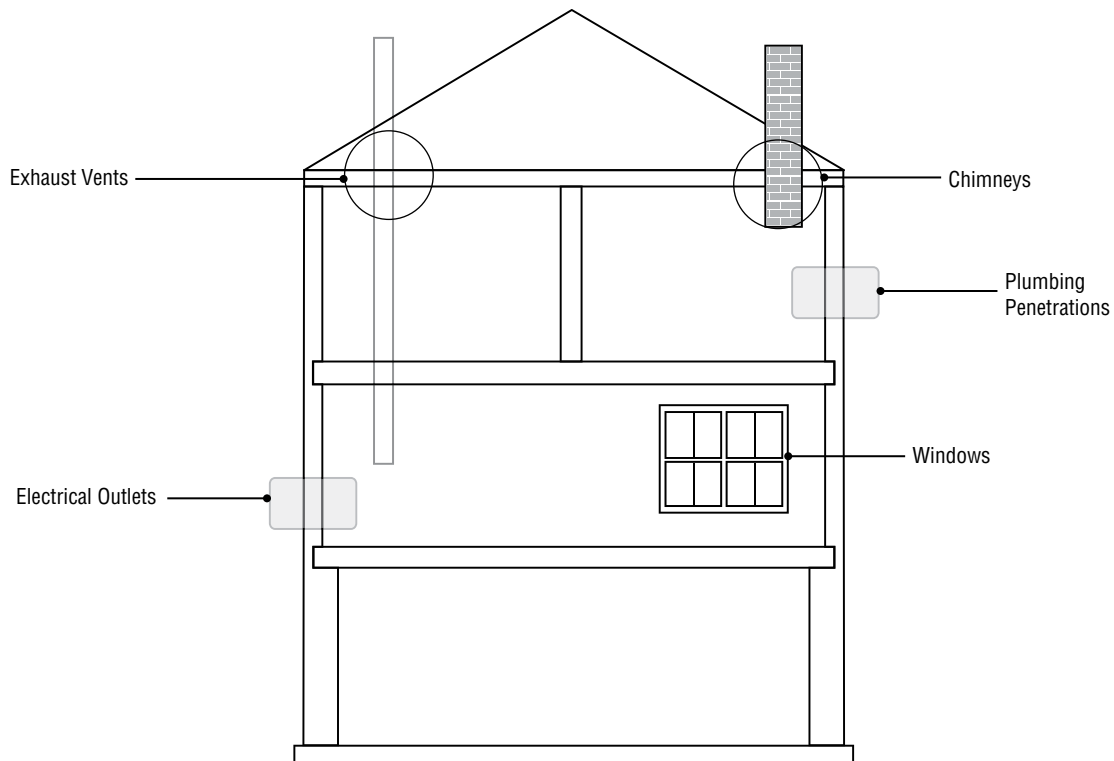

Figure 6: Building envelope penetrations.
Penetrations – Figure 6 through 11
- Building envelope penetrations include windows, doors, dryer vents, bathroom exhaust fans, electrical outlets, gas lines, plumbing, etc. (See Figure 6)